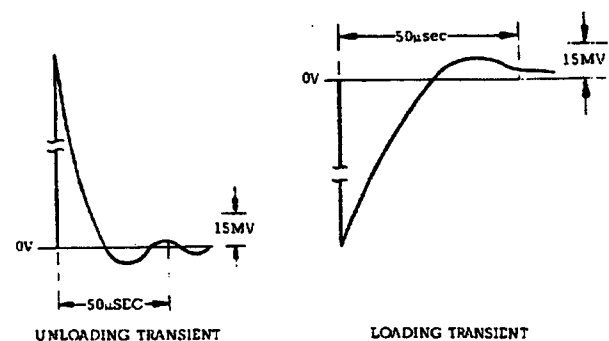

Figure 5-8. Transient Response Waveforms
- Adjust 25K potentiometer until a stable display is obtained on oscilloscope. Waveform should be within the tolerances shown in Figure 5-8 (output should return to within 15 mV of original value in less than 50 microseconds).